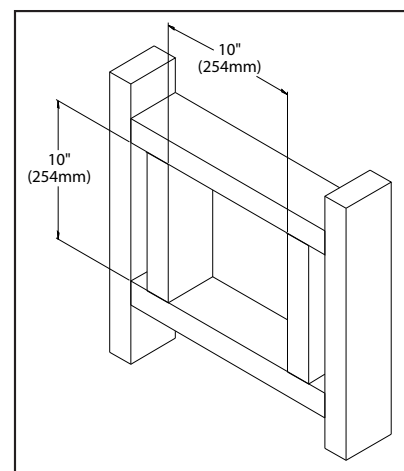

Figure 25: Wall Framing Hole for Horizontal Installation.
6. Frame the hole as shown in Figure 25.
3. With the pipe attached to the stove in the correct location, mark the wall for a 10" (25.4 cm) x 10" (25.4 cm) square hole (refer to Figure 25). The center of the square hole should match the center line of the horizontal pipe. Cut and frame the 10" (25.4 cm) x 10" (25.4 cm) hole in the exterior wall where the vent will be terminated. If the wall being penetrated is constructed of non-combustible material i.e. masonry or concrete, a 7 inches (17.8 cm) hole is acceptable.